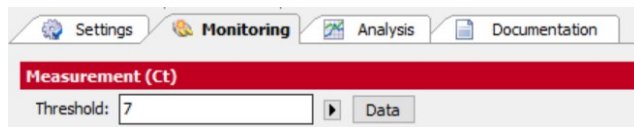

FIGURE 2: MONITORING TAB VIEW
3. Under Monitoring tab, click “Calculate Ct,” the view shown in Figure 2 will show up.